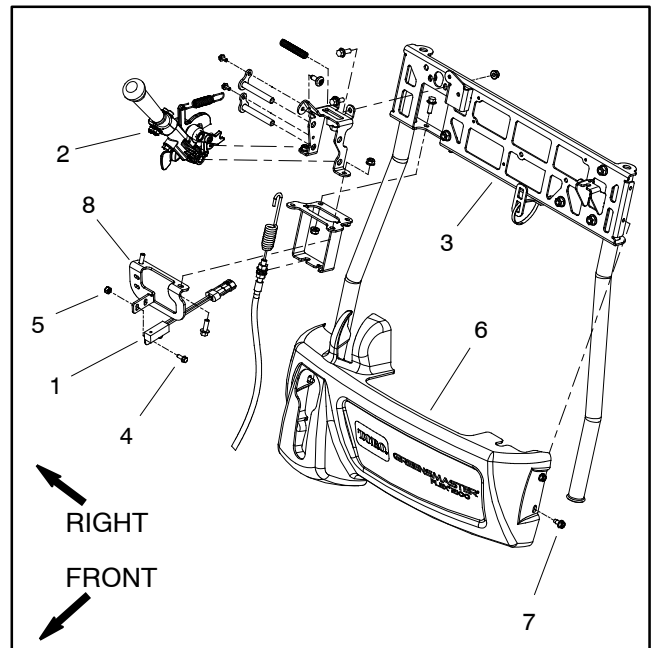

Figure 12
2. Remove console cover from handle to allow access to traction switch (Fig. 12).
2. Remove screws and lock nuts that mount switch to switch mount bracket on handle (Fig. 12). Remove switch from machine.
3. Position traction switch to switch bracket and secure with screws and lock nuts (Fig. 12).